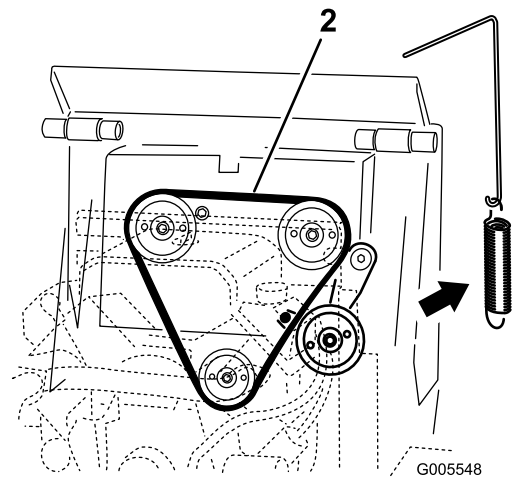

Figure 46
6. Install a new drive belt around the three pulleys (Figure 46).